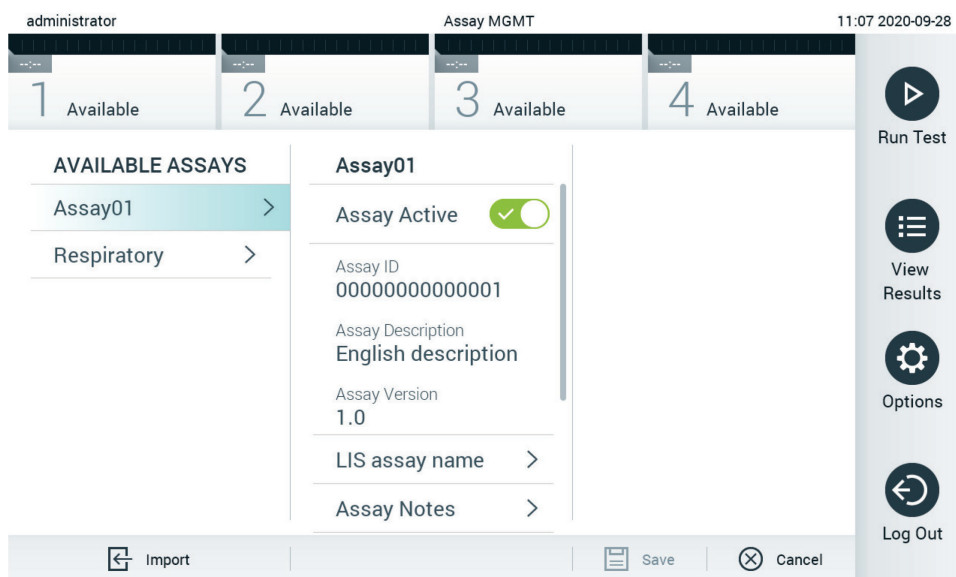

Figure 68. Activating the assay.
**Note:** If External Control (EC) samples are linked to an assay that is overwritten by a new version, the EC sample is reset and needs to be reconfigured. For more information refer to Section 6.6.
7. Enable Assay Active to activate the assay. (Figure 68).